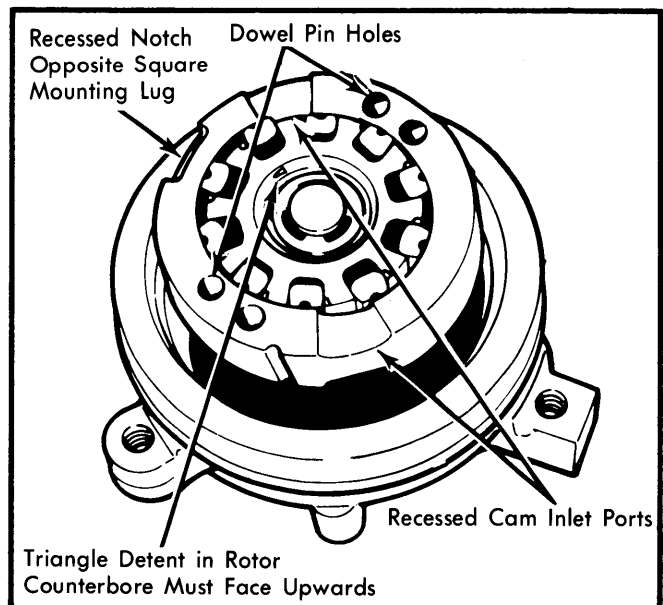
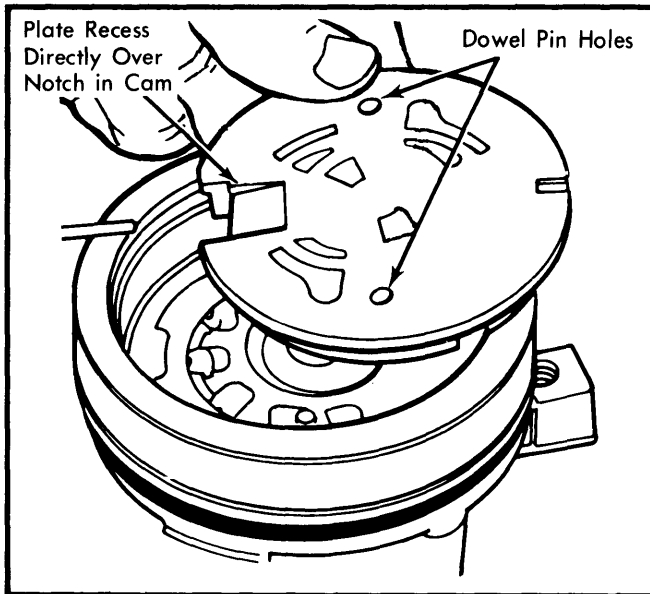

Fig. 4 Assembling Cam and Rotating Assembly
Fig. 5 Upper Pressure Plate Installation
Reassembly – 1) If rotating group was disassembled, place rotor on shaft with triangle detent (See Fig. 4) facing upwards and install retaining ring at end of shaft. Place insert cam over rotor with recessed notch on cam facing upwards.
5) Install rotating assembly over dowel pins and into housing as shown in Fig. 4. Place upper pressure plate over dowel pins with recess directly over recessed notch on cam insert as shown in Fig. 5.